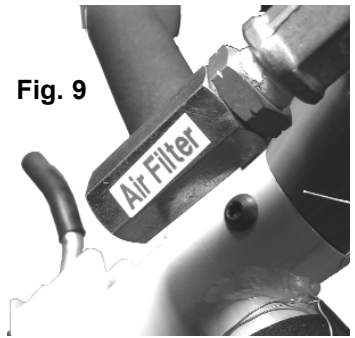
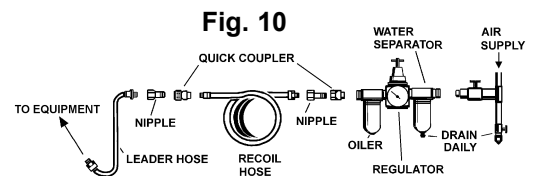

Fig. 9
Fig. 10
3.4.4 Keep the air hose between the compressor and the air jack as short as possible and install an air filter and oiler. Refer to Fig. 9.
- 3.7.4 Keep the air hose between the compressor and the air jack as short as possible. An air filter is already installed. Refer to Fig. 9. A standard air supply hook-up should also be installed. Refer to Fig. 10.